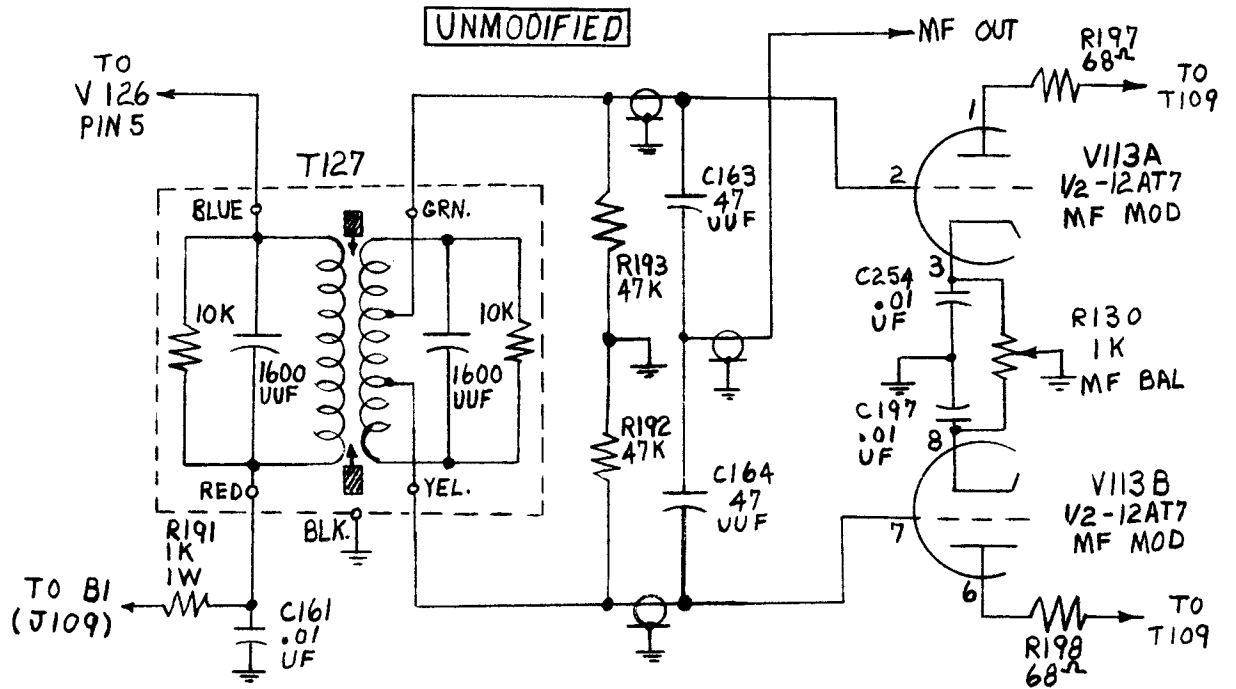

FIGURE 4
20. See Figure 4 for schematic diagram.